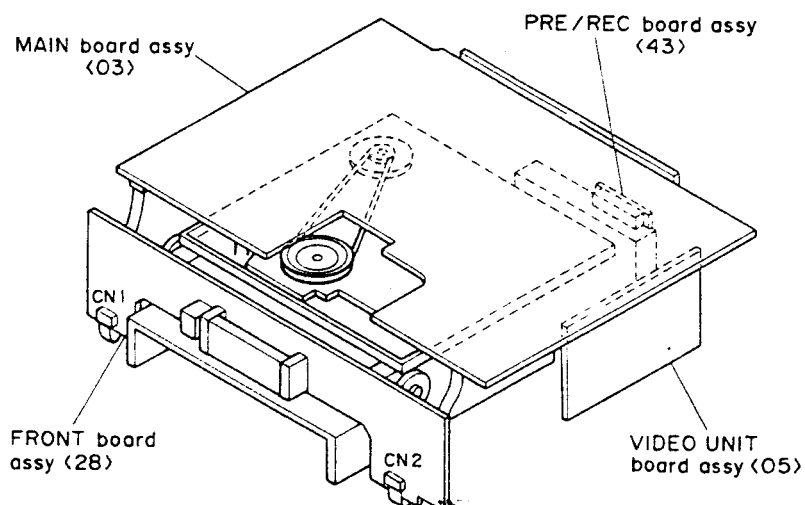

Fig. 1-2-3
6. Connect the flat wires of (CN1, CN2)-the front board assembly to the main board assembly. Then check the pattern side of main board as shown on Fig. 1-2-3.